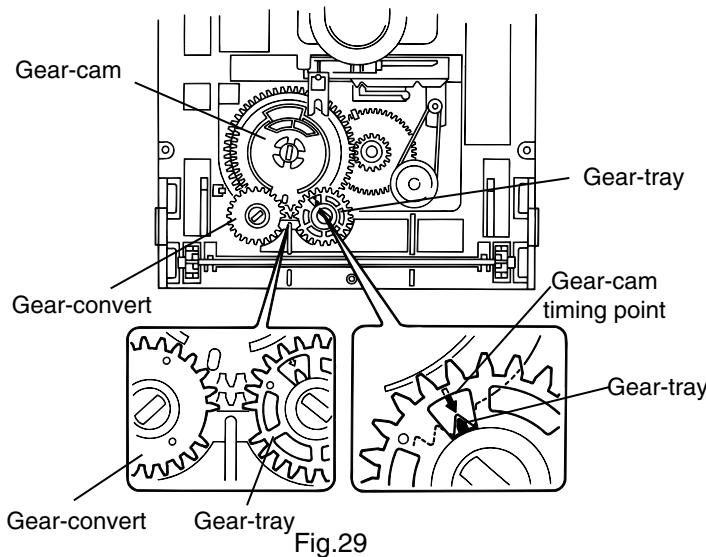

Fig.29
■ Reinstall the CD tray (See Fig.29 to 30)